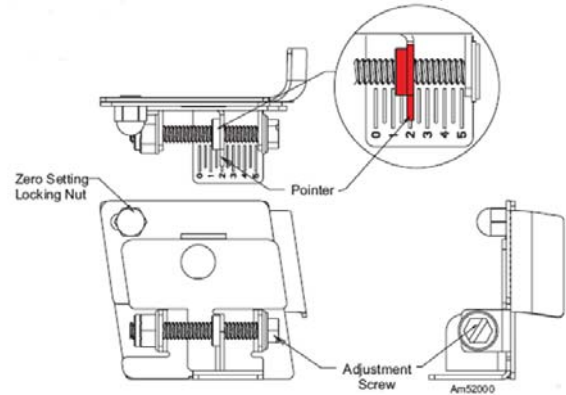

Figure 20
5. If the burner is producing more than #1 smoke, adjust the intake air using the zero setting locking nut and adjustment screw (figure 20). Loosen the locking nut approximately one turn. Turn the adjustment screw clockwise to increase air or counterclockwise to decrease air.